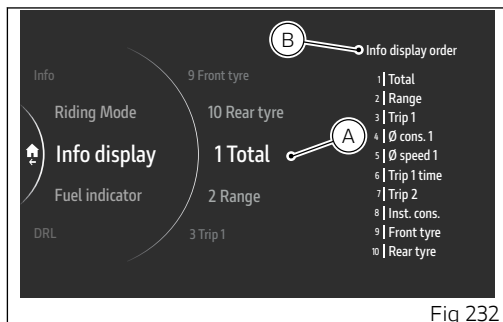

Fig 232
The list of the 10 selectable items, with the number of their current position (A, Fig 232) is displayed in the middle. The current order of the Info display (B, Fig 232) is displayed on the right-hand side.
- Use the joystick ▲ ▼ to select "Total" and press ENTER (Fig 232).
To restore the original order, select the "Default" item and press ENTER: "Wait..." is displayed for a few seconds followed by "Restored". Then, "Default" item disappears from the menu list, while the positions of the items and the current order of the Info display are restored to their original conditions (Fig 232).